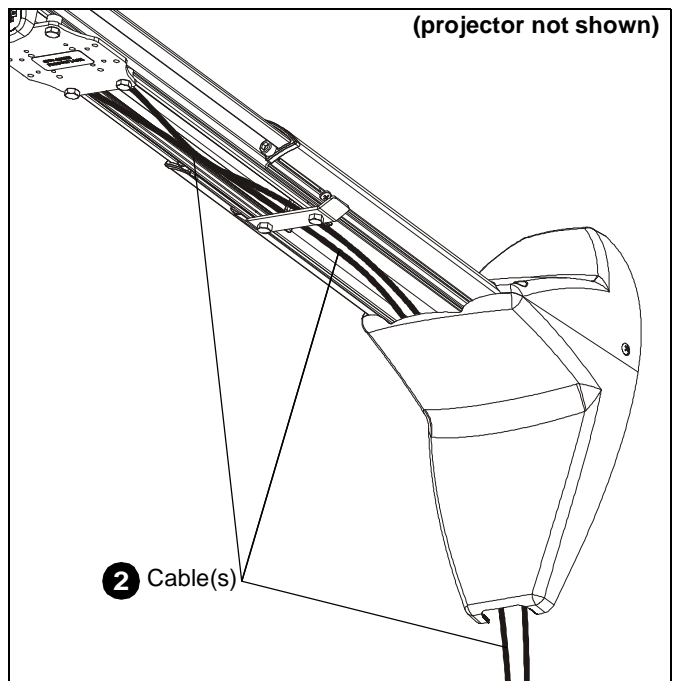

Figure 24
2. Route projector cable(s) under mount cover and through short throw projector arm tunnel. (See Figure 24)